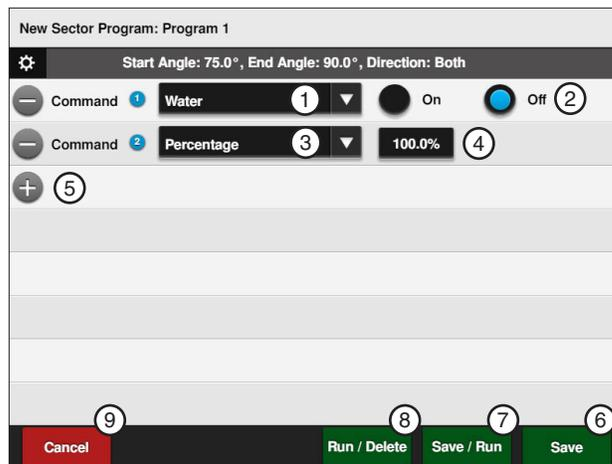

Figure 147-1 1. Water Command 6. Save
- Select the **Choose Command** drop-down menu and choose **Water**. Refer to Figure 147-1.